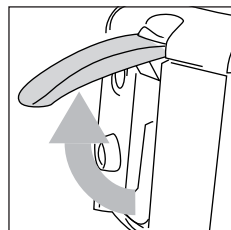

fig. 1
- Raise the basket to the highest position by pulling the special handle upwards (fig.1). The lid should ALWAYS be closed when the basket is raised and lowered.